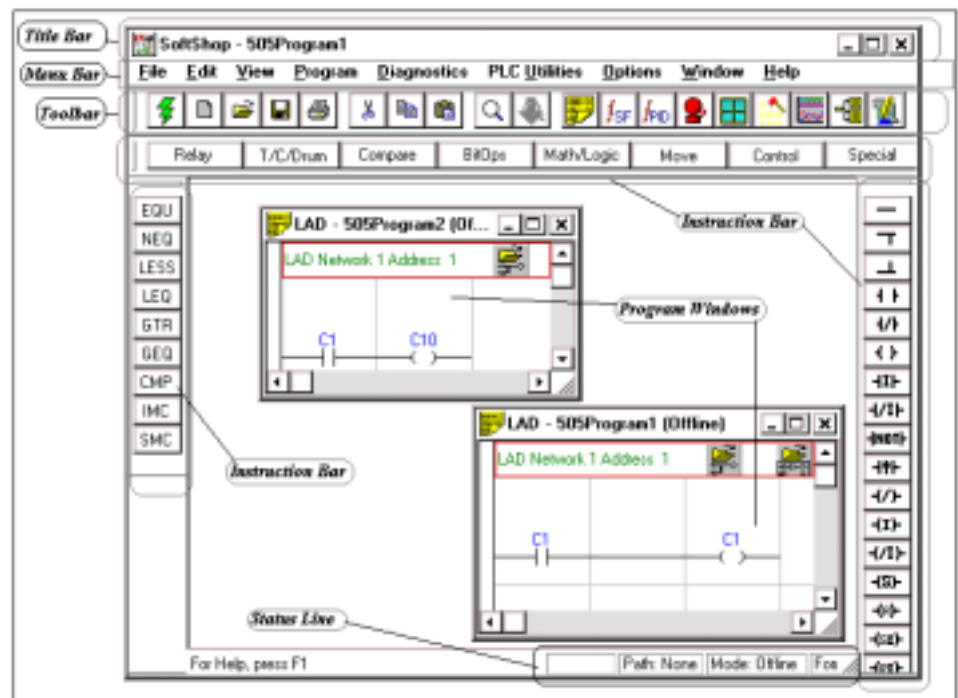

Figure 3.1
The key features of the 505 SoftShop window shown in Figure 3.1 are defined below. More detailed descriptions follow.
The instruction bars appear along the sides and the top of the 505 SoftShop window when you are programming ladder logic (Figure 3.1).
- Identify the application you are using. In Figure 3.1, the application is SoftShop.